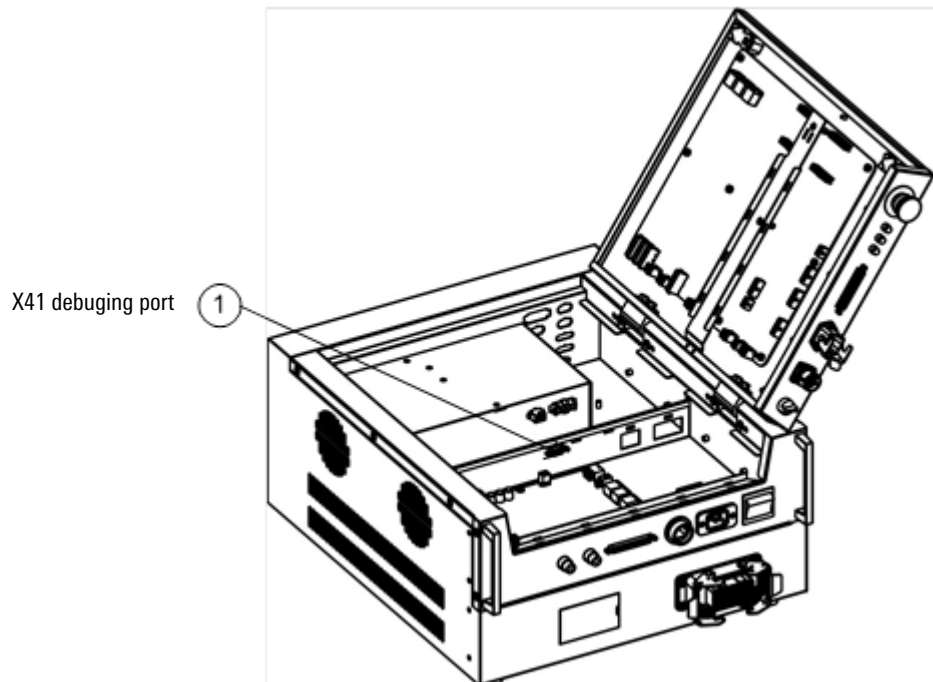

Figure 9-2 Schematic diagram of position of debugging port
The multi-axis drive debugging interface X41 of the inCube12 control cabinet is located on the sheet metal in the middle partition of the control cabinet, as shown in Figure 9-2. When adjusting the multi-axis drive parameters, you must connect RS422 to the interface ① via USB cable. For details about debugging, please refer to “Operation Manual of Robot Body”.